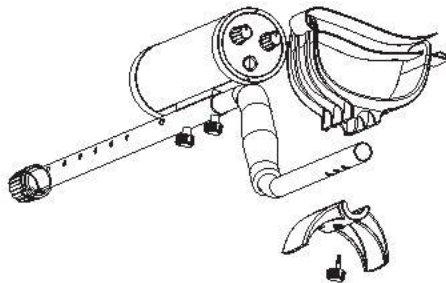

Fig.5
5. Install the bracket arm on the upper stem. The bracket arm has three positions, loosen the triangle fastening knob under the bracket arm, let the bracket arm separate up from down. Take off the bracket arm, place it in a certain position, and then tighten the triangle fastening knob (see Fig.5).